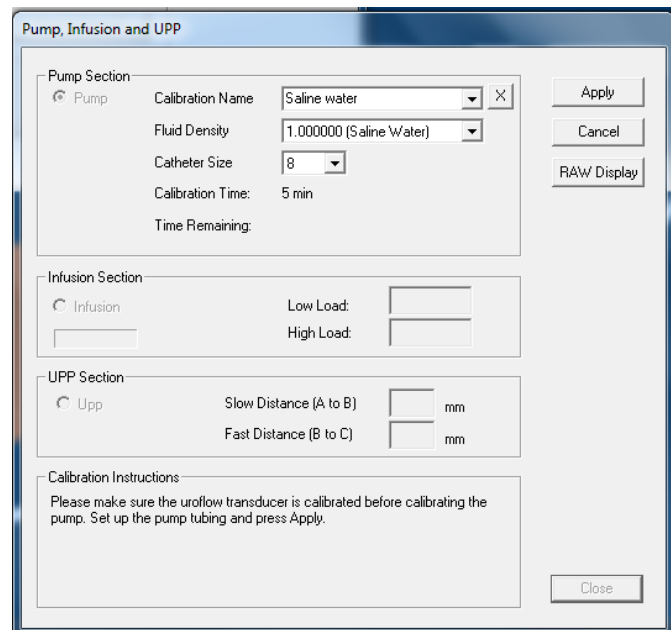

Figure 110: Pump, Infusion, and UPP Calibration Window
4. Select the *Pump* option under the *Pump Section* (Figure 110).